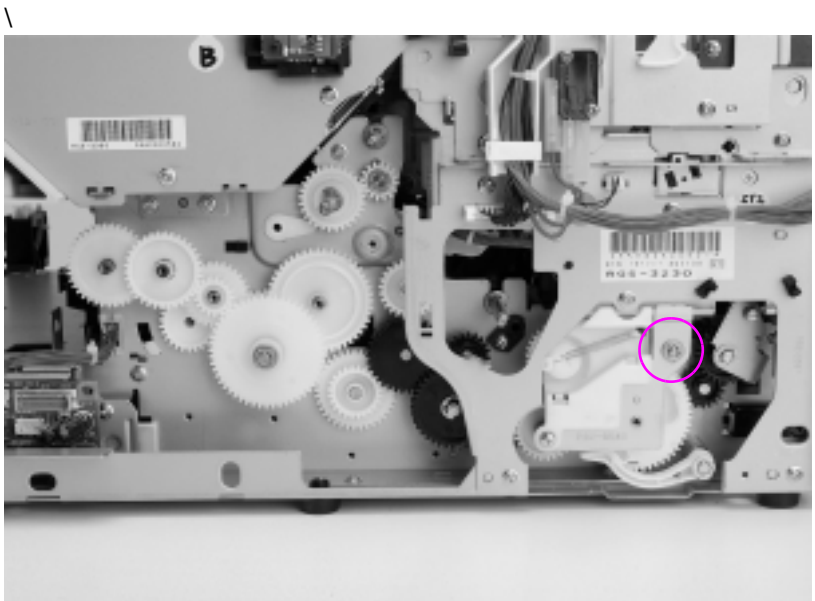

Figure 6-52 Left side gears removal and replacement (2 of 2)
- 13 Using longnosed pliers, remove the screw and E-ring and remove the plate shown in Figure 6-52.